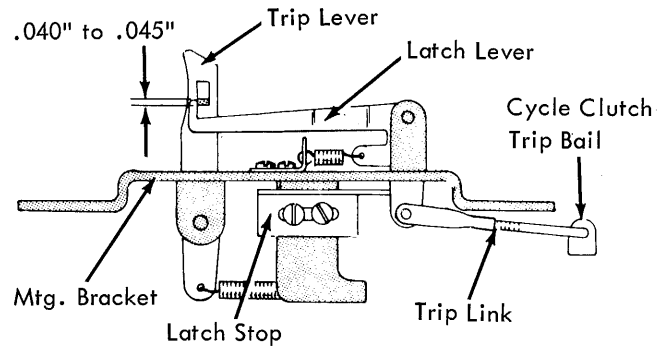
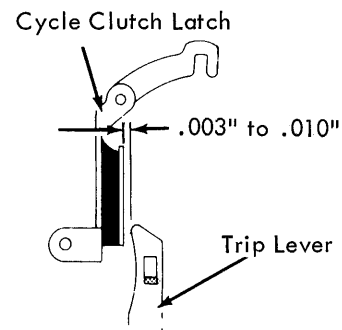
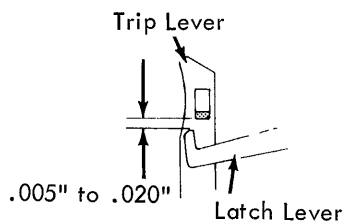

FIGURE 35. Latch Lever
FIGURE 36. Mounting Bracket Position
FIGURE 37. Trip Link Adjustment
- a. Disconnect the trip link (Fig. 35).
8. Trip Link (Late Style) - The clevis is now attached to the link and the adjustment is made with a self-locking nut. The adjustment is the same as in Fig. 37.
1. Latch Stop (Unit Removed) (Fig. 35) - Position so that the latch lever overlaps the trip lever lug by .040" to .045".
2. Mounting Bracket (Unit Installed) (Fig. 35) - Position front to rear so that the trip lever clears the cycle clutch latch by .003" to .010" (Fig. 36).
3. Trip Link Clevis (Fig. 35) - With either the T2 or R5 armature manually attracted, adjust the clevis so that the latch lever overthrows the trip lever lug by .005" to .020" (Fig. 37).